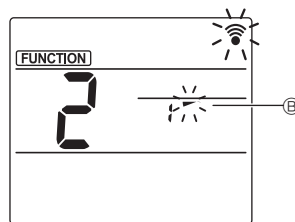

Fig. 3
③ Nastavenie uhla lamely (Fig. 3)